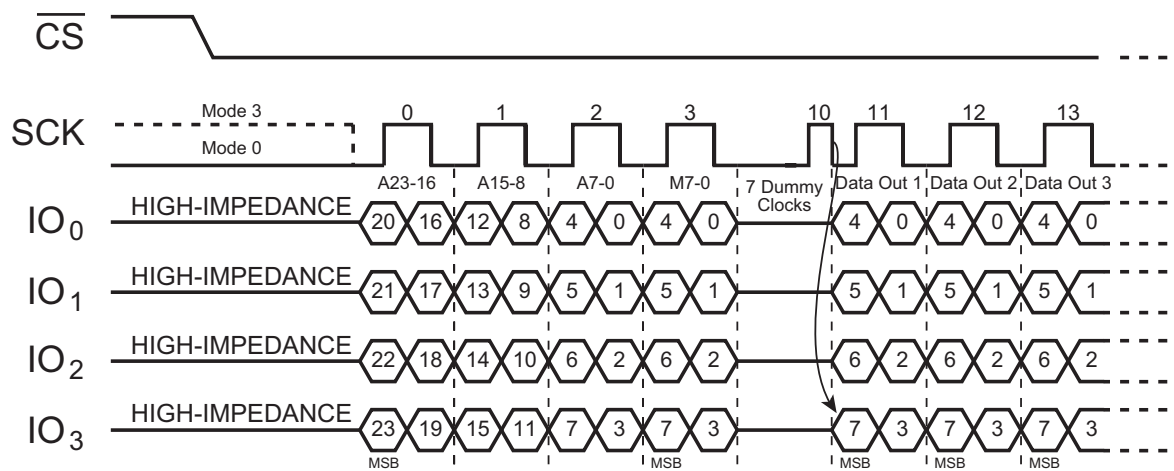

Figure 38. DTR Fast Read Quad I/O (SPI Mode; Initial instruction or previous M5-4 = 1,0)
The DTR Fast Read Quad I/O (EDh) instruction is similar to the Fast Read Dual I/O (BBh) instruction except that address and data bits are input and output through four pins IO0, IO1, IO2 and IO3 and four Dummy clocks are required in SPI mode prior to the data output, as shown in Figure 38. The Quad Enable bit (QE) of Status Register must be set to enable.